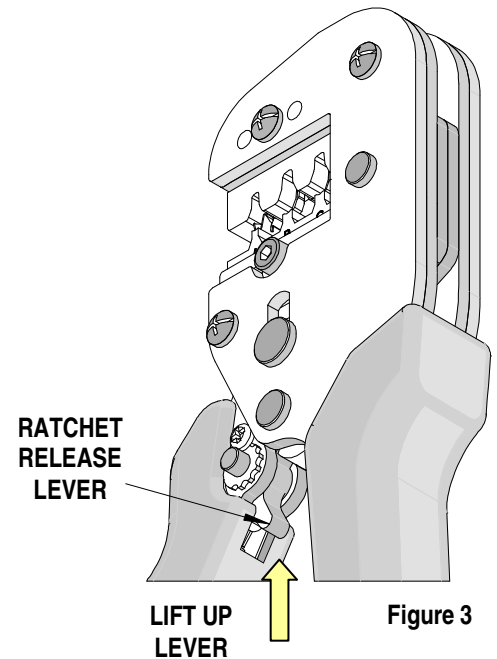

Figure 3
6. While holding the wire in place, slowly close the handles of the tool. If excessive resistance is felt, there may be a jam. If this occurs, stop closing the tool and release the anti-backup ratchet by lifting up the lever near the top of the moving handle. See figure 3.
If the tool ever becomes jammed in a partially closed position, **DO NOT force the handles open or closed**. The tool will open by lifting the ratchet release lever. See Figure 3.